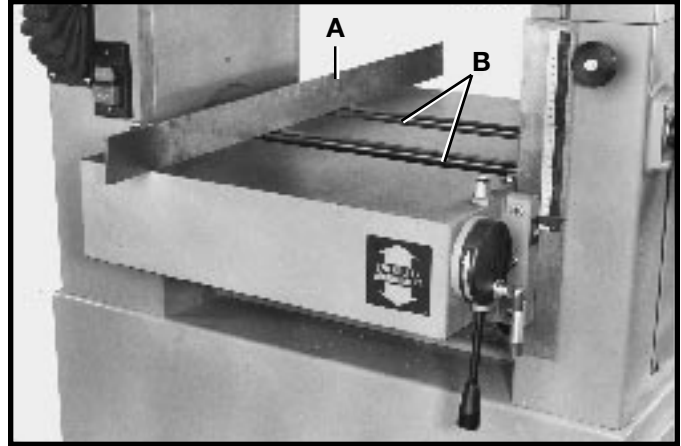

Fig. 22
2. With the table rolls in the lowest position, lay a straight edge (A) Fig. 22, across both table rolls (B) on the left side of the table as shown.